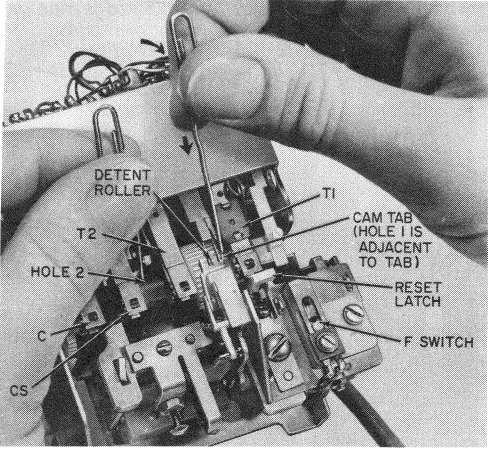

Fig. 15—Increasing Totalizer Rate (Typical)
#### Increasing Rate (Fig. 15).
- (2) Further rotate shaft approximately 10 steps until a tab on the T1 cam is accessible as shown in Fig. 15 and 16.
- (3) Insert a paper clip into one of the four holes indicated as hole 2 in center of shaft. Hold paper clip firmly so that shaft cannot move.
- (4) Position a second paper clip into the hole on T1 cam indicated as hole 1 and rotate cam in direction of the curved arrow as shown.
**If hole 1 in T1 cam has been mutilated or clogged preventing use, place paper clip against tab as shown in Fig. 15 and push tab in direction of the straight arrow.**
- (5) One step of rotation of the T1 cam in this direction increases the rate by 5 cents.
- (6) Check new initial rate setting per paragraph 3.14.